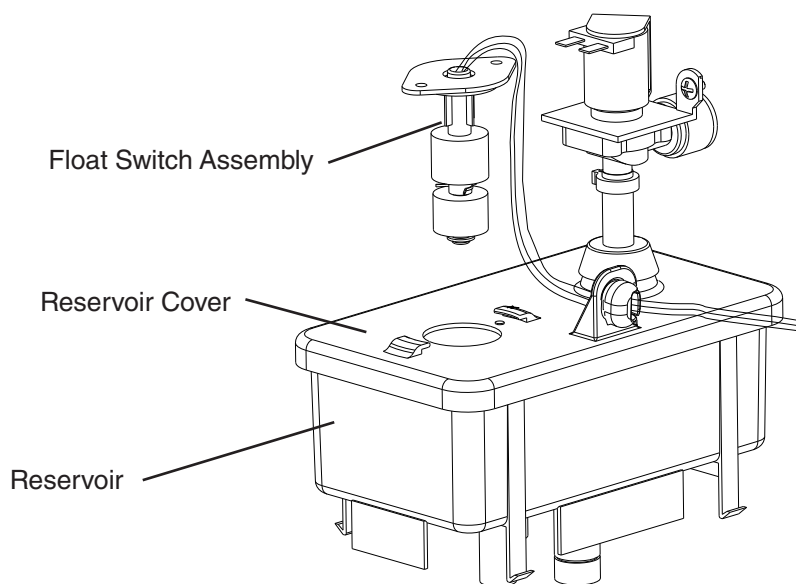

Fig. 6
- 3) Remove FS assembly from the reservoir cover. See Fig. 6.